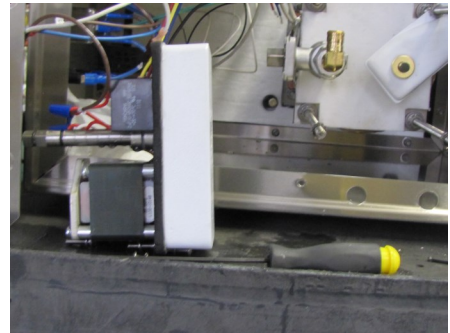

Figure 10
10. Remove the valve motor from the valve and set it aside as shown in Figure 10.